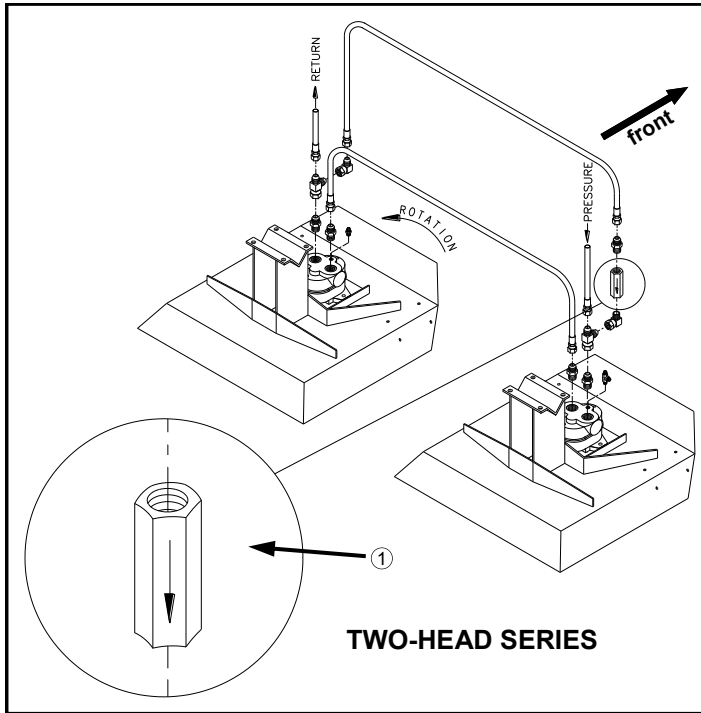
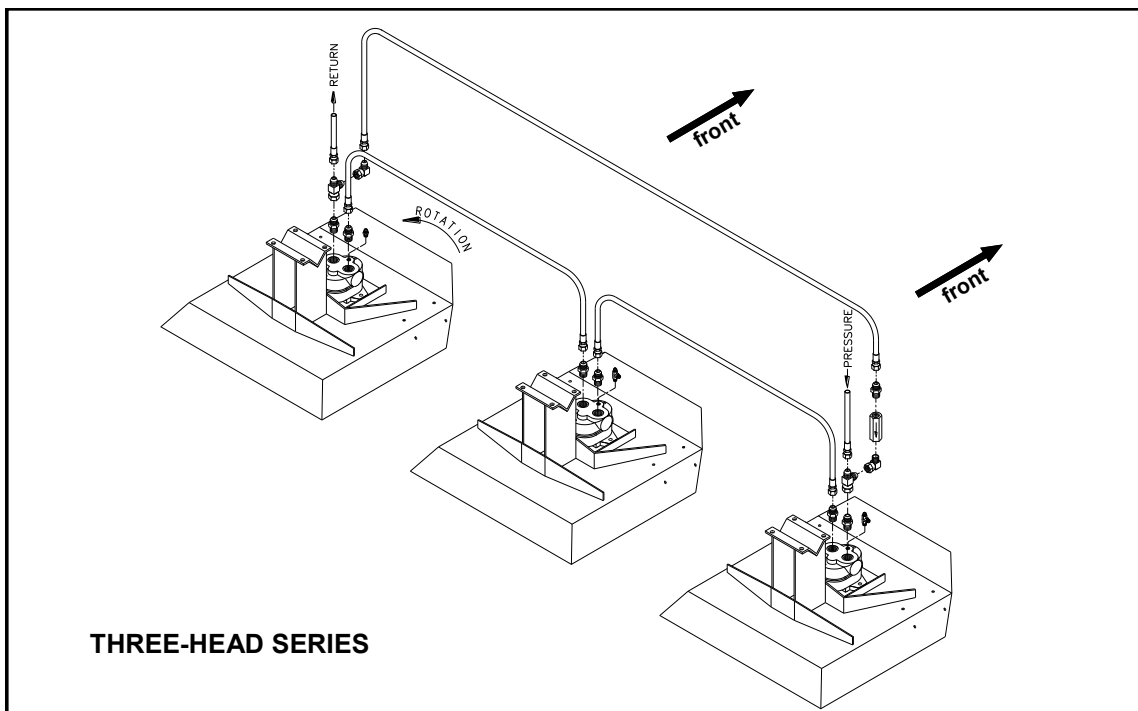

FIG 4.23
FIG 4.24
Hydraulic hoses on cutter heads should be hooked up so blades on heads mounted left of operator rotate according to figure 4.23 and figure 4.24 (counter-clockwise from above). Refer to 204 DETASSELER Parts Manual for correct hardware, hose lengths, and hydraulic schematic.
Care should be taken when installing check valve (fig. 4.23, item 1) on cutter motor so the flow arrow is oriented correctly (either two-head or three-head series).